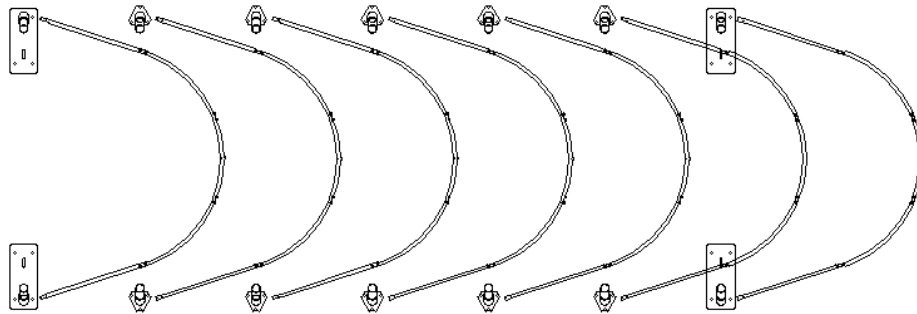

Figure 3
Lay down all (7) trusses on the ground as Figure 3 when the assembly is all completed and before moving to next step.